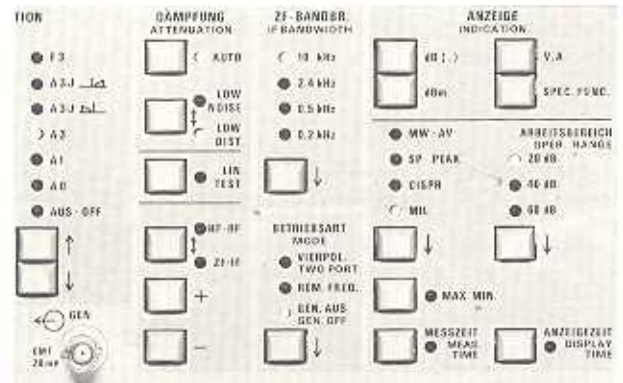

Fig. 17 Front-panel controls for indication, IF bandwidths, modes, attenuation, and demodulation.
**Range selection** for level measurements can be made either manually by separate setting of the RF and IF attenuation (Fig. 17) or by automatic RF attenuation setting (autoranging) with the low-noise or low-distortion IF attenuation setting determined by the selected IF bandwidth and indicating mode. In addition, a 1-dB RF attenuator is provided for a **linearity test**.